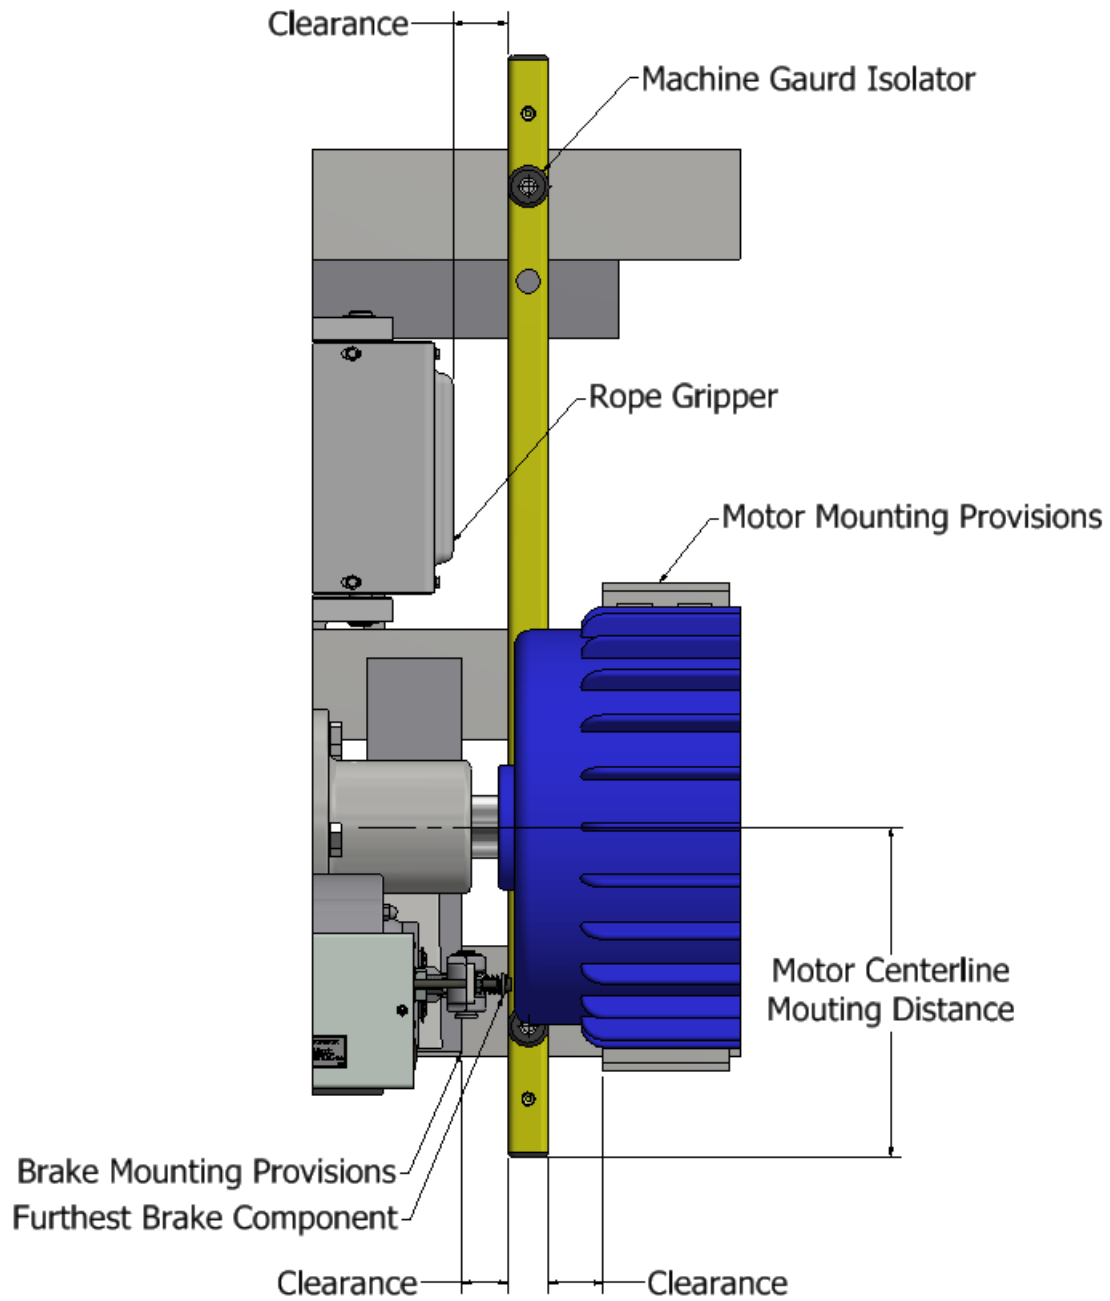

Figure 5: Machine Guard Corner Mounting Tube Assembly Placement
- Position the Machine Guard Corner Mounting Tube Assembly (p/n _ _-244) on the Overhead Traction Machine base. The Machine Guard Corner Mounting Tube Assembly (p/n _ _-244) should be placed underneath the motor shaft between the brake mounting and the motor mounting components. Ensure that the Machine Guard Corner Mounting Tube Assembly (p/n _ _-244) clears the rope gripper if applicable. The Machine Guard Corner Mounting Tube Assembly (p/n _ _-244) should be placed so the distance from the shaft centerline to the end of the Machine Guard Corner Mounting Tube Assembly (p/n _ _-244) corresponds to the correct entry in the Motor Centerline Mounting Distance table below (Table 2). Reference the figure below for proper tube placement (Figure 5).